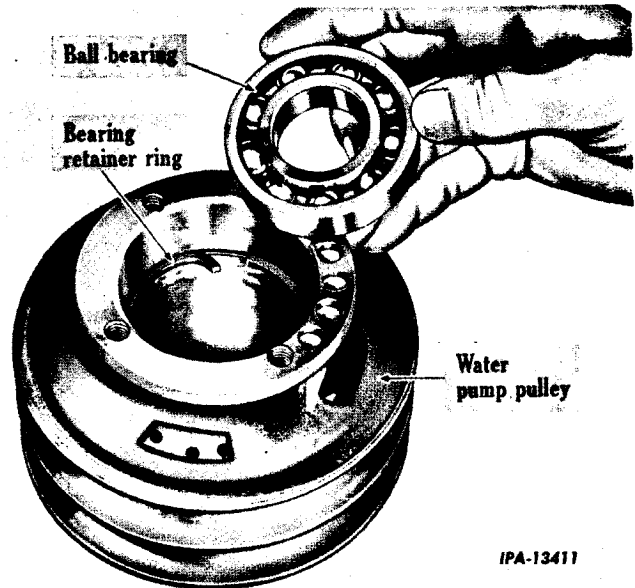

Fig. 24 - Installing Water Pump Ball Bearing Into The Pump Pulley.
5. Place the ball bearing in position on the retainer end of the pulley, and tap it into place against the retainer ring (Fig. 24). Fill the hub with the specified lubricant. Install the bearing spacer, and press the rear ball bearing into the rear of the pulley hub (with the adjustable flange of the hub already assembled).